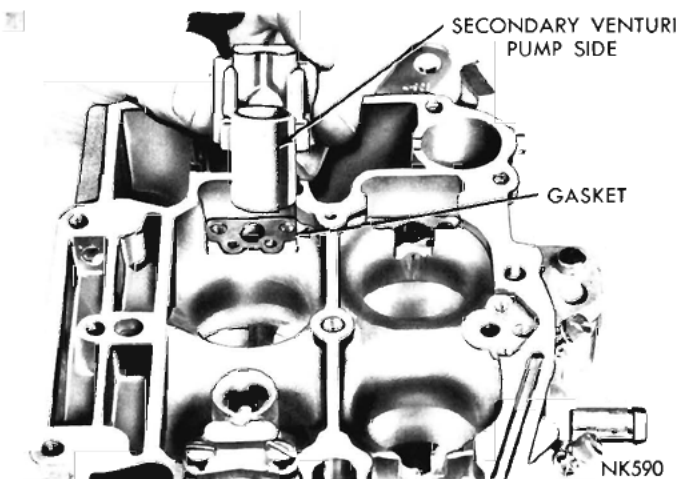

Fig. 6—Removing or Installing Secondary Venturi Cluster
(5) Remove the screws that attach the secondary venturi (choke and pump side) to the main body. Lift the secondary venturi assemblies straight up and away from the body, as shown in (Fig. 6).
(6) Lift the velocity valves and counterweights out of the secondary throttle bores.
(7) Using Tool T109-59, screw driver bit, remove the accelerator pump intake check valve located inside the fuel bowl, adjacent to the accelerator pump cylinder.
(8) Remove the two idle mixture adjusting screws and springs from the throttle body portion of the main casting.